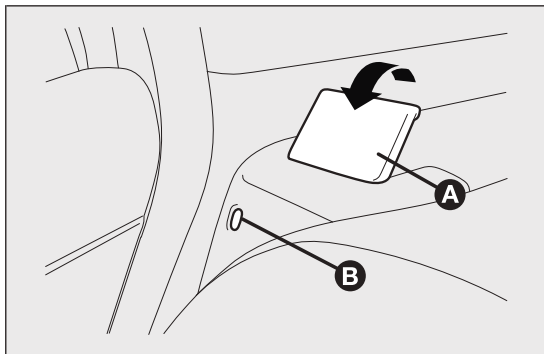

fig. 77
- lift lever A fig. 77 retaining the backrest and fold the latter forwards. When you lift the lever, you will see a red band B.